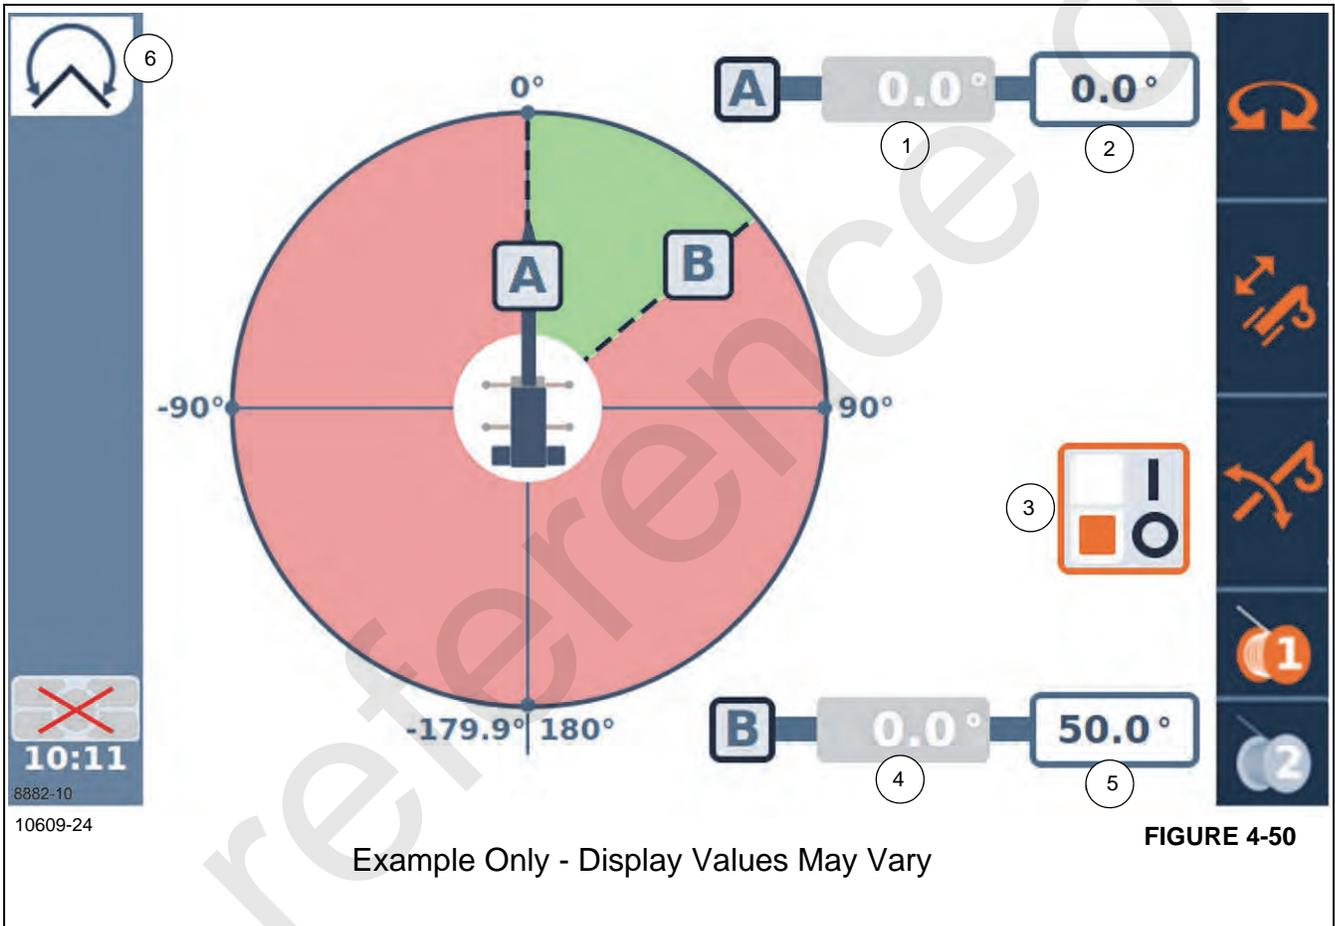

FIGURE 4-50
2. Use the Left Arrow and/or Right Arrow Function keys (4, Figure 4-6) to highlight the Switch Enable/Disable Symbol (3, Figure 4-50). Enable is "I" and Disable is "O".
If the Swing Angle Limitation is selected from the menu of WRL Limitations, then the Swing Angle Limitation Screen will be shown (Figure 4-50).
Using the Left Arrow and Right Arrow Function keys (4, Figure 4-6) on the Navigation Control Pad or the Jog Dial (5, Figure 4-7) changes the object highlighted on the screen. As the arrow keys are pressed, the highlight will move between the objects, with the color orange typically meaning that the object is selected and can be affected by subsequent actions. In Figure 4-50, the orange Icon (Item 3)
3. Select the Swing Angle Menu Screen (2, Figure 4-46). **NOTE:** The Swing Angle Screen (6, Figure 4-50) Icon is shown on the top left side of the ODM screen.
4. Enable the limitation by using the Jog Dial (5, Figure 4-7) or the Arrow Keys (4, Figure 4-6) and move to the Enable/Disable Switch ON/OFF (3, Figure 4-50). **NOTE:** The Switch (3, Figure 4-50) is the Swing Enable/Disable Switch ON/OFF and is a toggle switch. Click OK (5, Figure 4-6), or the Jog Dial (5, Figure 4-7) to toggle the switch.
5. Move the Boom to the desired position. This position will indicate the swing angle current value Limitation A (1) swing (left) position.
6. Use the Jog Dial (5, Figure 4-7) or the Arrow Keys (4, Figure 4-6) and move to the Limitation Value (1, Figure 4-50). Click OK to set the current value Limitation A (1, Figure 4-50) position.
7. Repeat Steps 4 thru 6 to set the Limitation B (4, Figure 4-50) Swing (Right) Direction value.
3. Select the Swing Angle Menu Screen (12, Figure 4-20). **NOTE:** You know you are on the Swing Angle Screen by looking at the Icon on the top left side of the ODM screen. The Icon (6, Figure 4-50) at the top of the screen should show the Swing Angle Limitation Icon.
4. Enable the limitation by using the Jog Dial (5, Figure 4-7) or the Arrow Keys (4, Figure 4-6) and move to the Enable/Disable Switch ON/OFF (3, Figure 4-50). **NOTE:** The Switch (3, Figure 4-50) is the Enable/Disable Switch ON/OFF and is a toggle switch. Click OK (5, Figure 4-6), or the Jog Dial (5, Figure 4-7) to toggle the switch.
5. Use the Jog Dial (5, Figure 4-7) to move and select the Swing Angle Left Limitation A (2, Figure 4-50) to set the Left Angle Limitation value. Use OK to begin changing the value shown. Enter a value by using the Jog Dial (5, Figure 4-7) or the upper and lower arrow keys (4, Figure 4-6) to change the value (in tenths) to the desired swing angle value. Use the OK Button (5, Figure 4-6) to finish entering the values.
6. Repeat Steps 5 to set the Limitation B (5, Figure 4-50) Swing Left Direction value.
NOTE: Turning off the power to the control system also disables the WRL Limitations but it will remember the set points (2) and (5) as shown in (Figure 4-50).
NOTE: The Swing Angle Screen (6, Figure 4-50) Icon is shown on the top left side of the ODM screen.